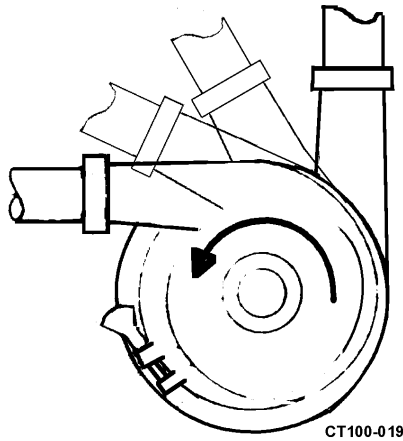

Figure 6 - Recommended Discharge Positions
- The pump casing may be rotated with the discharge connection pointing in any direction; the best pump performance will be with the outlet up, to the left, or positions in between. These positions ensure a flooded casing and prevent problems caused by air in the system. See Figure 6.
- Check the pump rotation following an electrical installation. The correct direction of rotation is counterclockwise when facing the pump inlet connection. See Figure 6 on page 10.